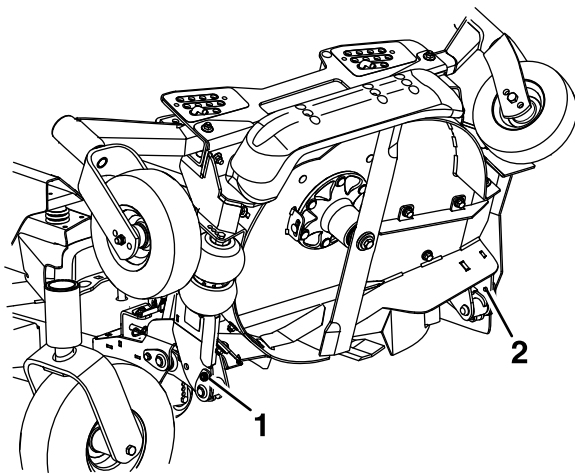
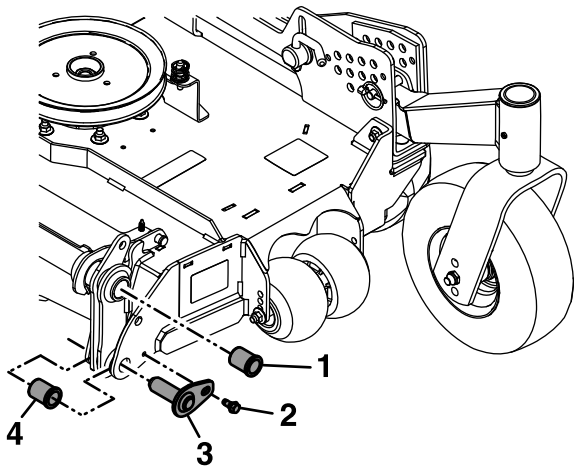

Figure 82
Figure 85
7. Loosen the bolts that secure the upper pivot pins to the deck but **do not** remove the bolts (Figure 82).
14. Remove the flanged bushings from the upper pivot points and clean the bore (Figure 85).
18. Remove and retain the lower pivot point bolts (Figure 82 and Figure 85).